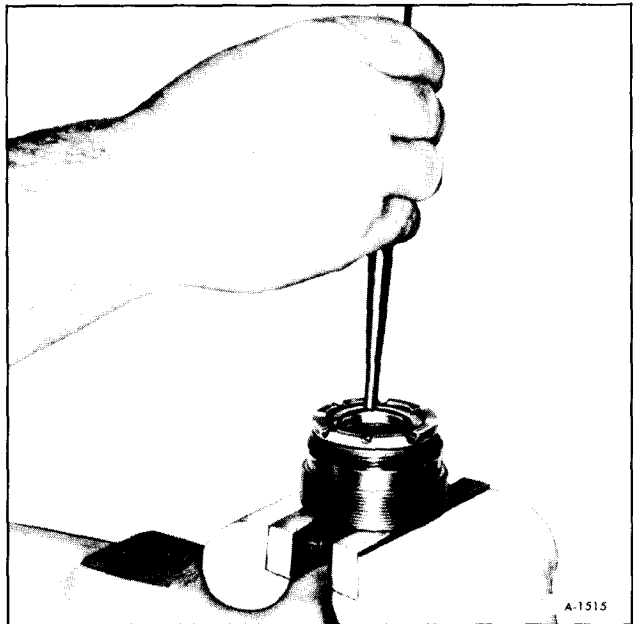

Figure 35—Install Retainer
5. Install bearing retainer on the adjuster plug by carefully tapping on the flat surface of the retainer (figure 35).